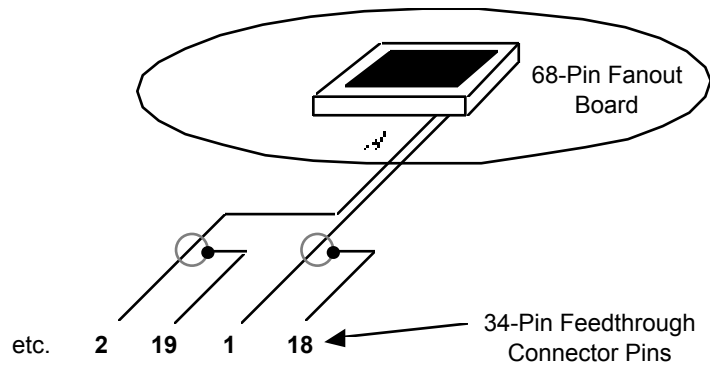
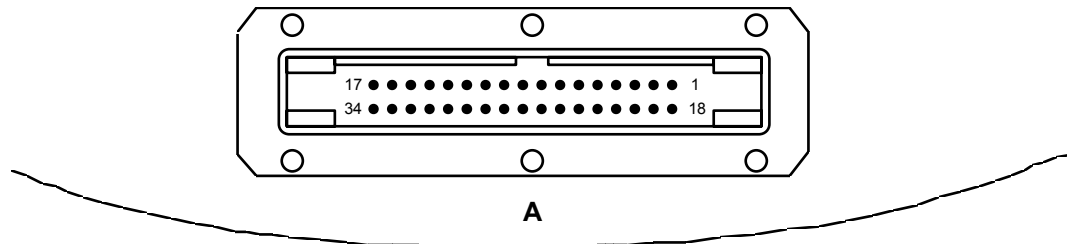

Figure 1-4 68-Pin Fanout Board Wiring
Figure 1-6 50-Pin Signal Feedthrough Connector
**SIGNAL FEEDTHROUGH CONNECTOR:** Four 34-pin connectors labeled A, B, C, and D pass through the 68 connections from the fanout board. As a default setup for a Model MTD-120, the inner row of 17 pins are the signal lines and the outer row is the shield for that corresponding line (as shown in Figure 1-4). See Figure 1-6 for signal feedthrough connector definition.